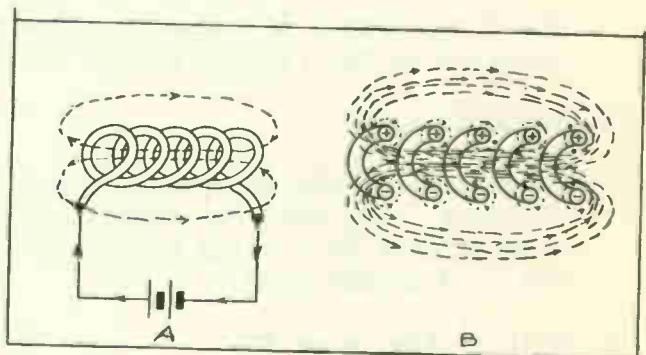

Fig. 6
- c. The lines of force around the turns of a coil join together in a single field of very great strength. This field will have a north and south pole, Fig. 6.
## 1. The Helix, Fig. 6.